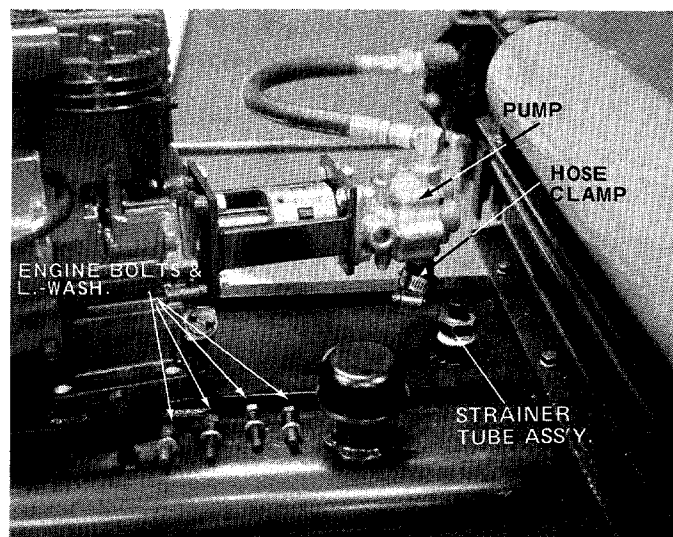

FIGURE 16
- Remove your engine bolts and lockwashers. See figure 16.
- Lift engine and pump assembly and rotate to one side. See figure 16.
- With a wrench, remove strainer tube assembly. See figure 16.